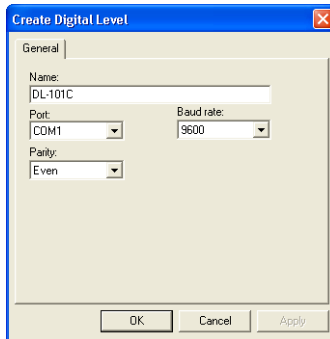

Figure 3-45. Digital Level Properties
4. Enter *Name*, the *Port* the device connects to, the *Baud Rate*, and *Parity* used for communication (Figure 3-45). Click **OK**.